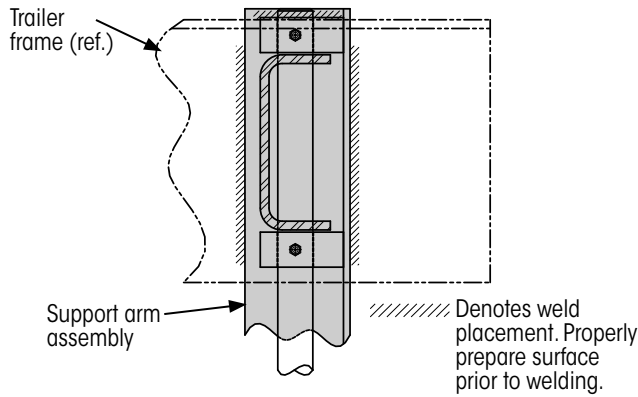

Figure 57: Kit SLKU welds (bottom view)
9. **Remove** temporary clamps and finish welding the SLKU assembly (Figure 57) according to specifications listed in the installation drawing¹. Adhere to the same welding parameters as presented on **APPENDIX A: WELDING DETAILS** on page 44.